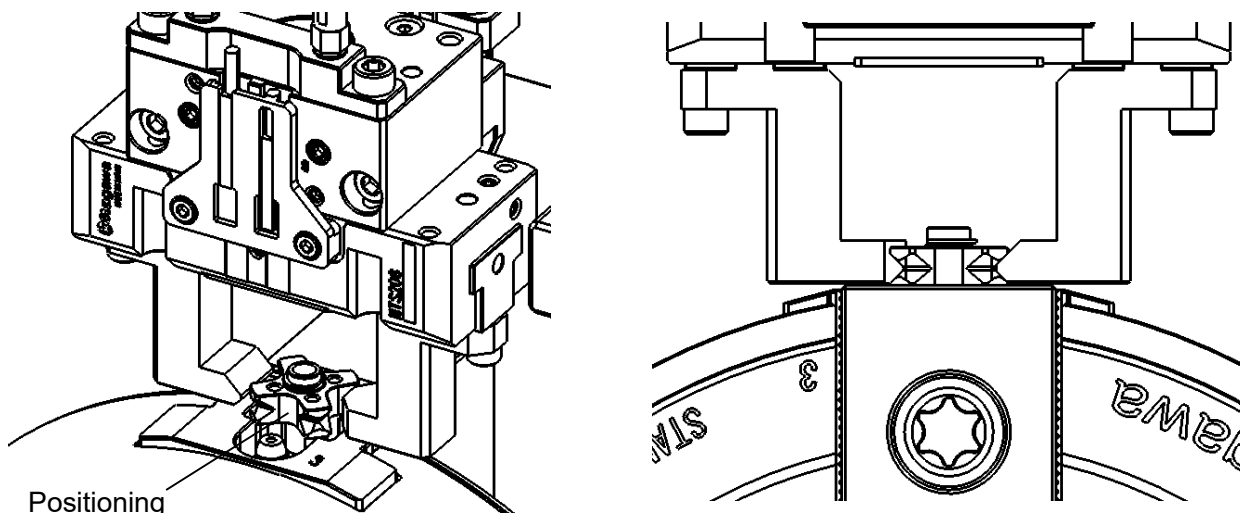

Figure 32 Holding Position
- ① Mount a jaw to the chuck and index it to the jaw change position.
- ② Move the BR-AJC end effector to the positioning nut holding position (Figure 32).